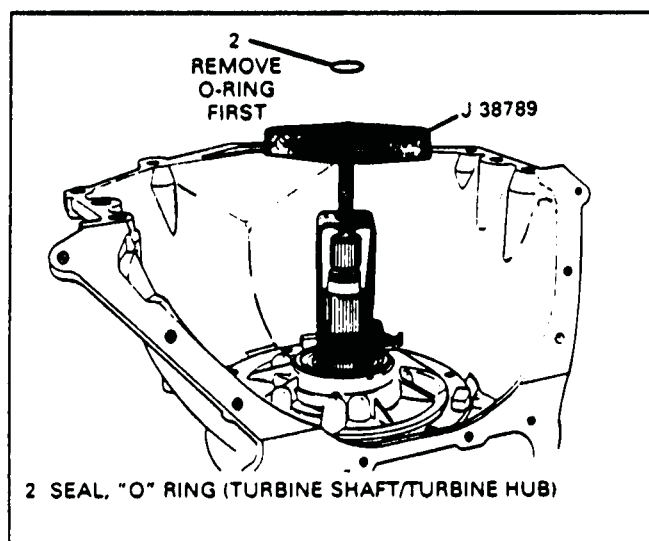

Figure 46
1. Remove the "O" ring seal from turbine shaft, as shown in Figure 46.
3. Install J-38789 pump removal tool as shown in Figure 46.